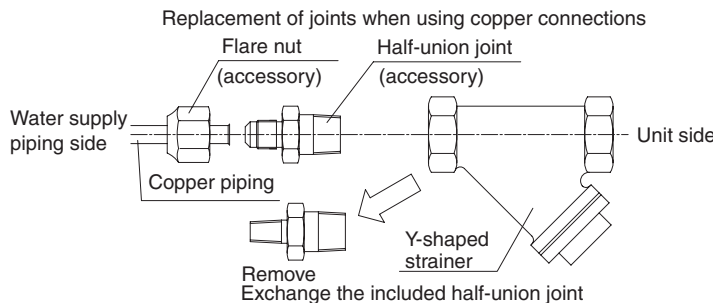

Fig. 9
- When using copper piping for the water supply connections, replace the included half-union joints. (Refer to Fig. 9)